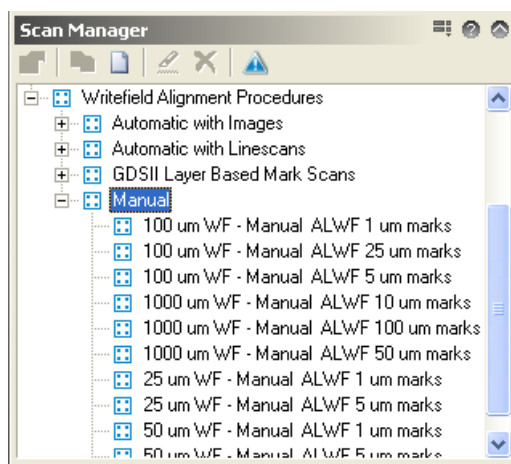

Figure 20: Manual align-writefield procedures.
4. In the Scan Manager (see Figure 20) select 'Writefield Alignment Procedures ->Manual'. Drag ,100 um WF - Manual ALWF 25 um marks' into the positionlist.